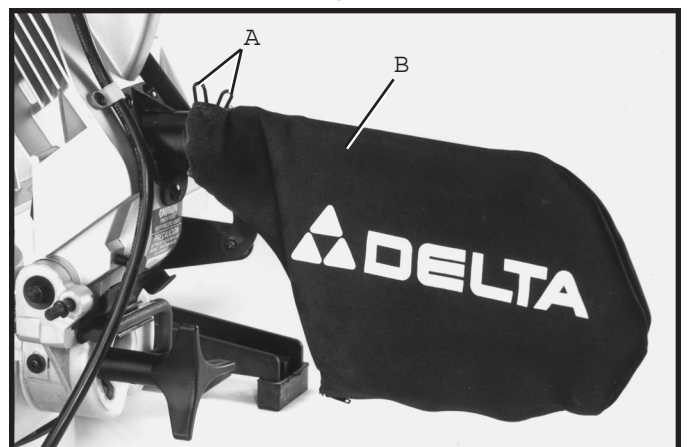

Fig. 10
1. Depress spring clips (A) Fig. 10, of dust bag (B) and clip dust bag (B) onto end of dust chute, as shown.